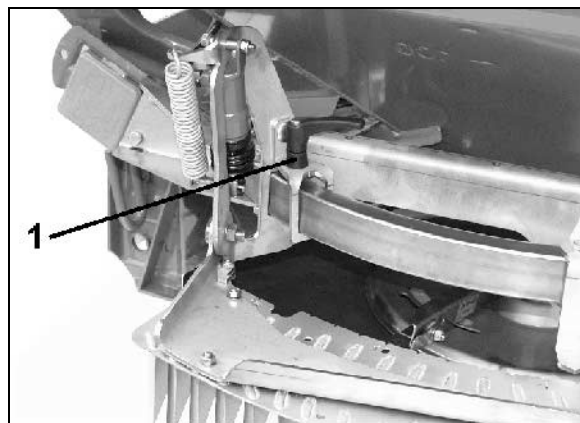

Fig. 59
1. To do this, slacken the clamping lever (Fig. 59/1).